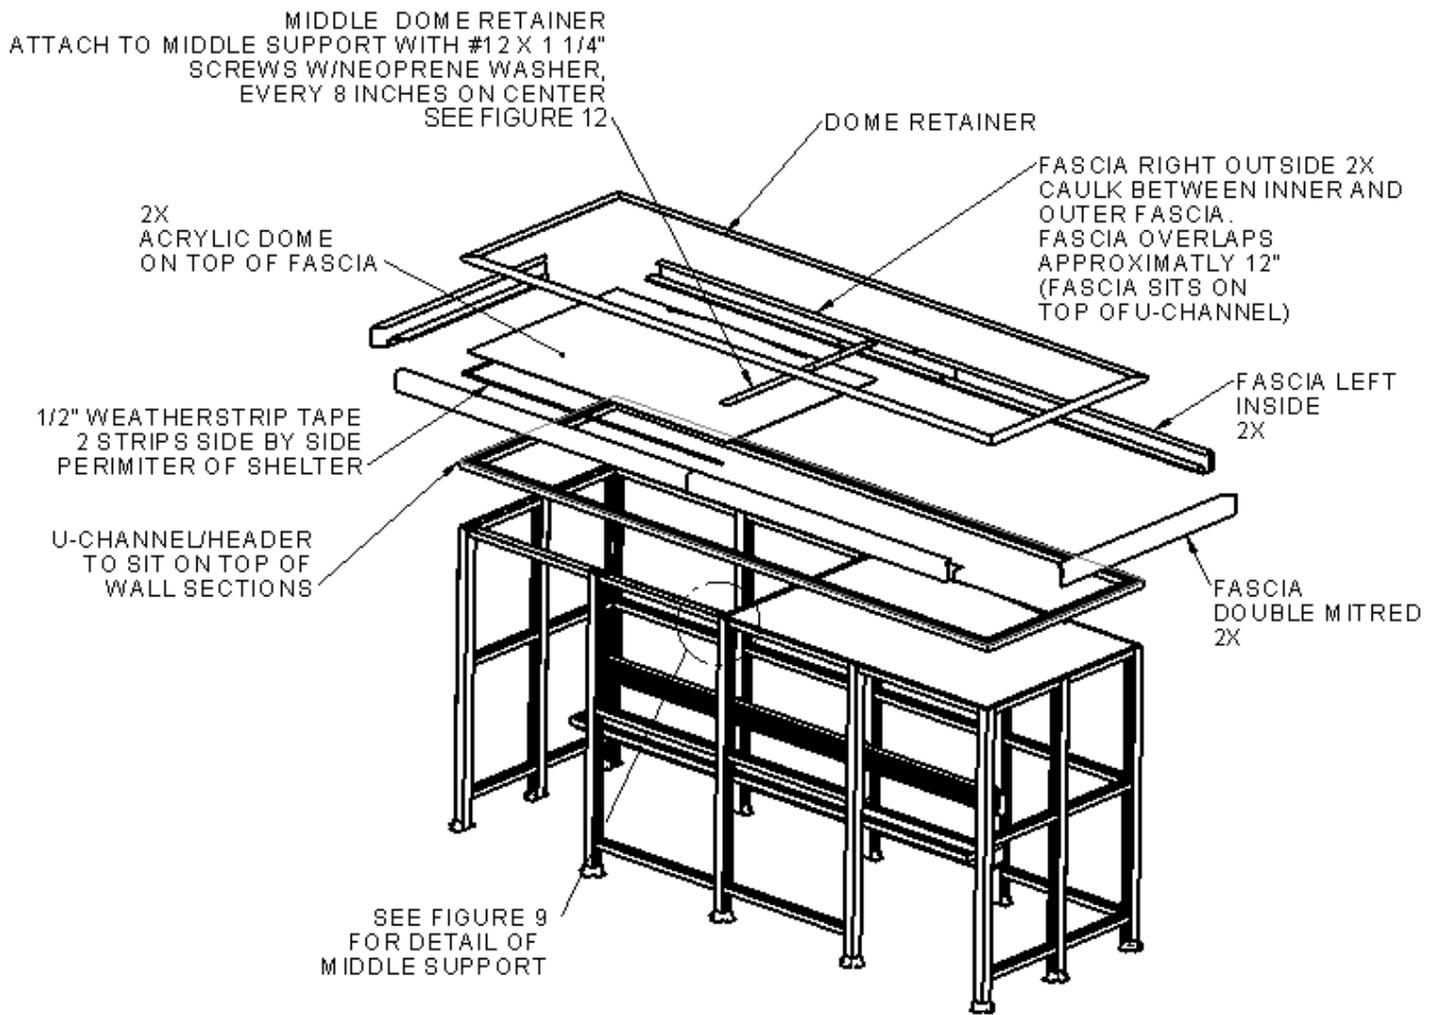

Figure 2
CAUTION: AS YOU ASSEMBLE THE SEQUENTIALLY NUMBERED PANELS BE SURE THE PANELS CREATE THE SHELTER ASSEMBLY PATTERN IN FIGURE 2 BELOW. OPENING(S) MAY DIFFER FROM MODEL SHOWN. CHECK INSTALL LAYOUT ASSEMBLY FOR LOCATION(S)